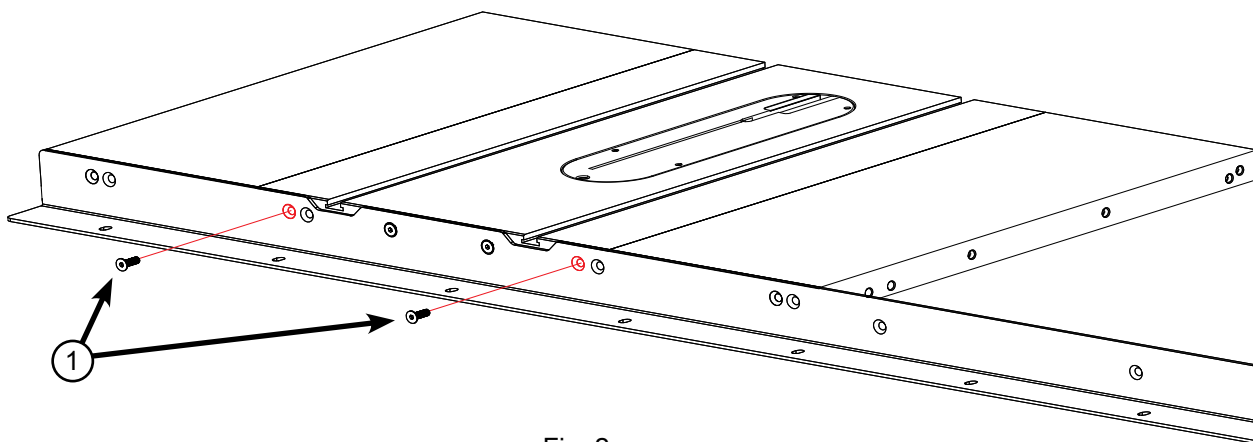

Fig. 2
2. Take two more M8 x 16 countersunk socket head bolts and thread one into the hole to the right of the notches and the other into the hole to the left of the notches (see Fig. 2). Tighten the bolts with a 5 mm hex key.